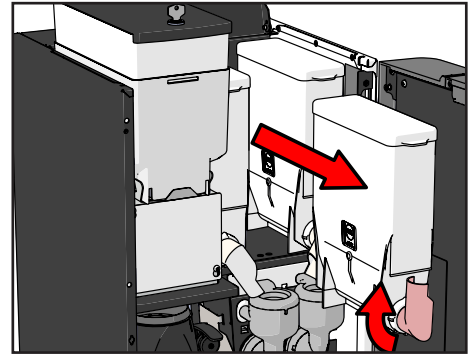

Figure 65. Remove canister
3. Turn the spouts of the instant product canisters upwards and remove the product canisters from the machine (see Figure 65).